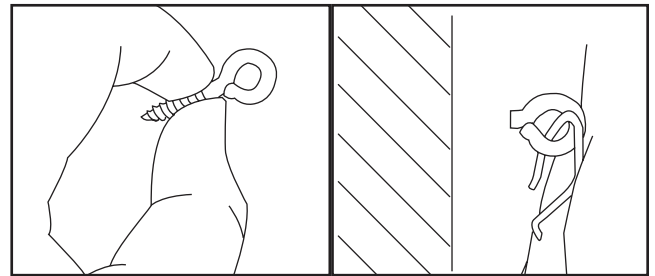

Figure 2.6.3- Screw in eyelet then insert pin through the opening
6.3 - If desired, screw the provided eye hook into the wall where the last pin will go, then insert the pin through the eyelet. See Figure 2.6.3.